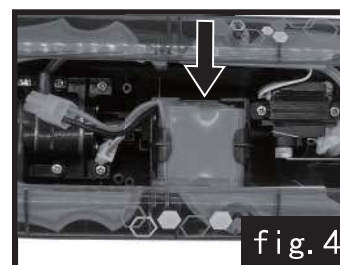
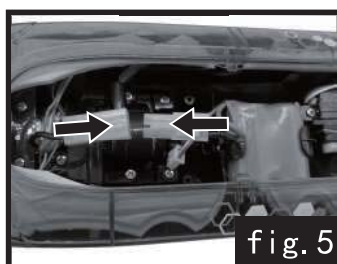

fig. 4
fig. 5
3. Install the battery and connect to power input of boat, fig. 4 and fig. 5.
4.Unscrew the motor seat,fig.4.
5.Lift the end of motor up carefully, then disconnect the motor from the main shaft,fig.5.